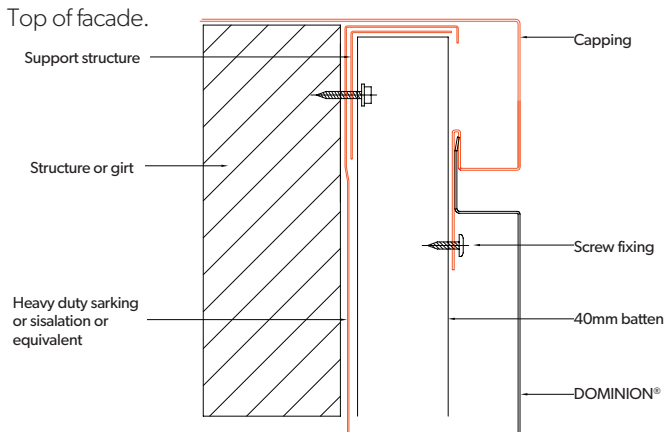

Figure 13.2.6:
7. At the bottom of the façade a flashing is required to direct any water from the membrane external of the façade. This will be done in a way as to allow any water to pass between the flashing and the foot mould. Figure 13.2.6.